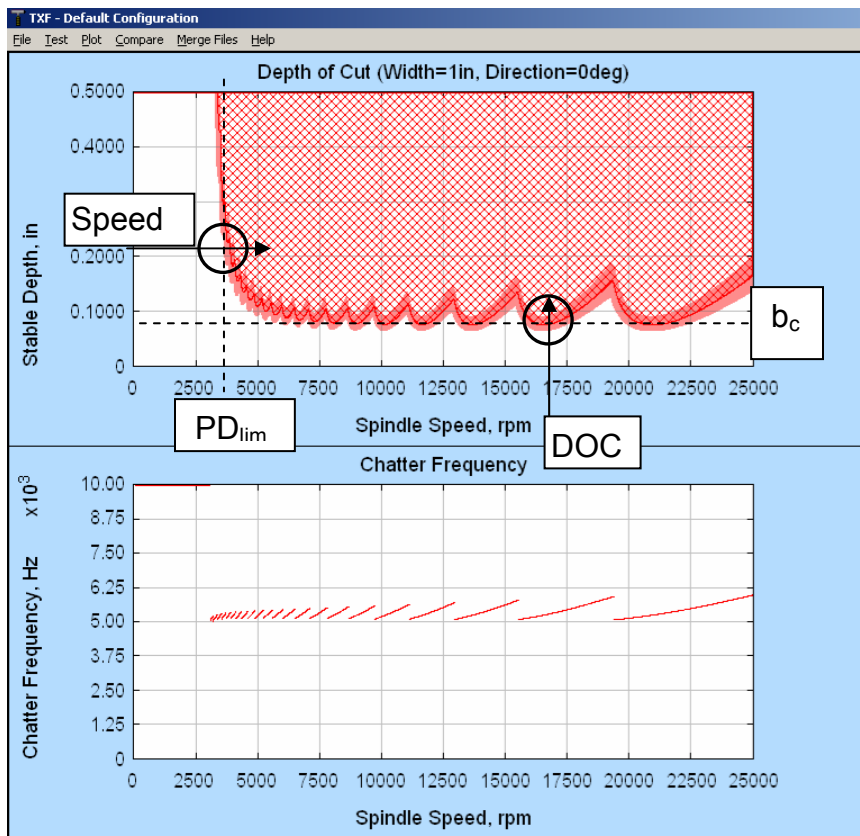

Figure 72: Stability Lobe Diagram
In the procedural description we will refer to the general stability graph in Figure 72.
- At some high speed select a “worst” case spindle speed (~16250 rpm in Figure 72). This spindle speed corresponds to the bottom of a lobe, (i.e. a depth of cut that produces a critical limit value (b_{cr}) from the stability chart).
So for the example in Figure 72 you would start at a depth of cut of 0.04” or 0.06” and then increment in steps of 0.01”.
- Evaluate at what spindle speed the depth of cut asymptotically rises to a maximum, labeled PD_{lim} (on the left side of the graph in Figure 72). Use $\frac{1}{4}$ to $\frac{1}{2}$ of this speed as the starting speed. For DOC use 2 times the limit value that was found in the DOC tests.
So for the example in Figure 72, PD_{lim} is at 3750 rpm so you would start at 1875 rpm. The depth of cut would be between 0.16” and 0.2”. You would increment your spindle speed by 10 rpm for each cut, yielding 3750, 3790, 3830, 3870, etc until you get chatter.